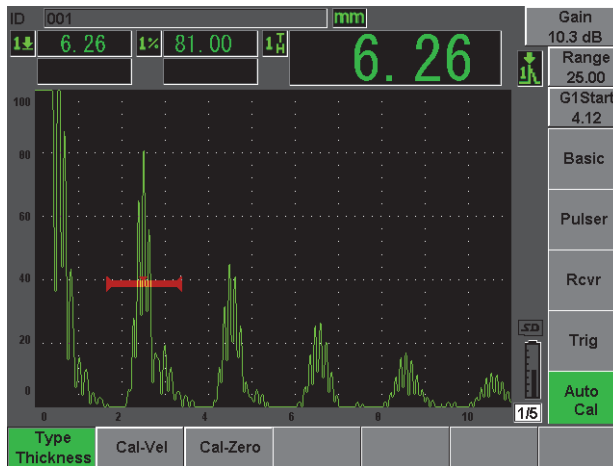

Figure 2-13 The Auto Cal menu
4. Select the **Auto Cal** menu (see Figure 2-13 on page 48).